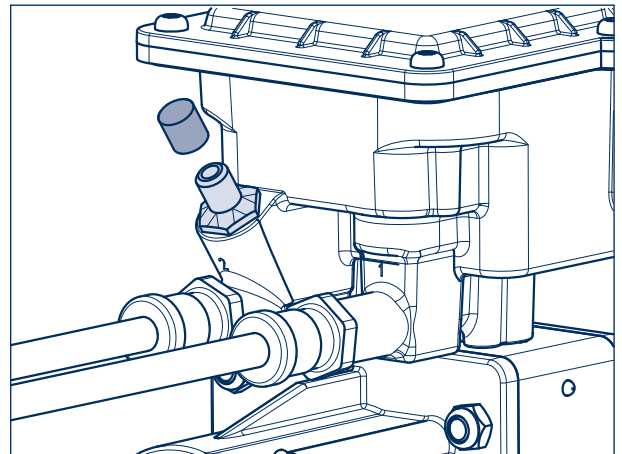

Figure 41
- [1] Remove cap on the pressure connection (Figure 41).